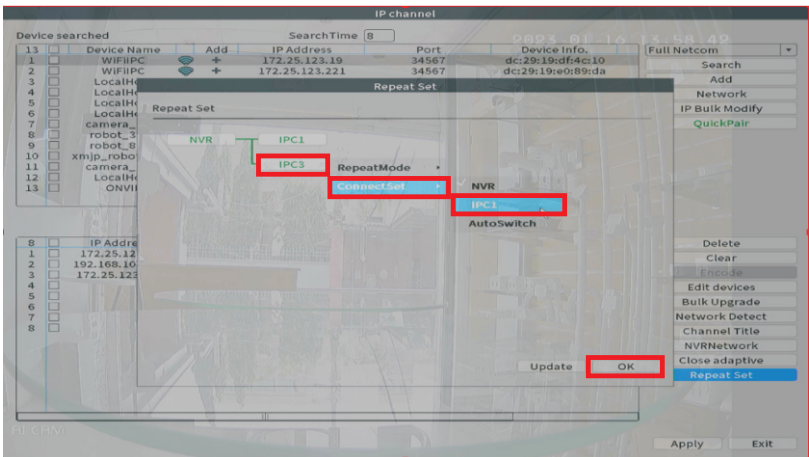

Figure 5. Set the IPC3 to Connect Set. Select IPC1 as repeater.
- To set IPC3 as camera to be repeated (Client), move the mouse cursor and click on IPC3. A dialog box will appear on screen. Select and Click on **Connect Set** and select the camera set as repeater (IPC1). Select the IPC 1 for the IPC 3 to connect to it. Click on **OK** to save the settings as illustrated on Figure 5.